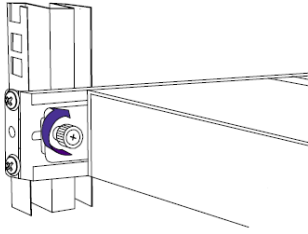

Figure 16 Tightening the thumbscrews
3. Secure the Switch 232 to the rail by inserting the thumbscrews through the bracket and into the rail and tightening them, see Figure 16.